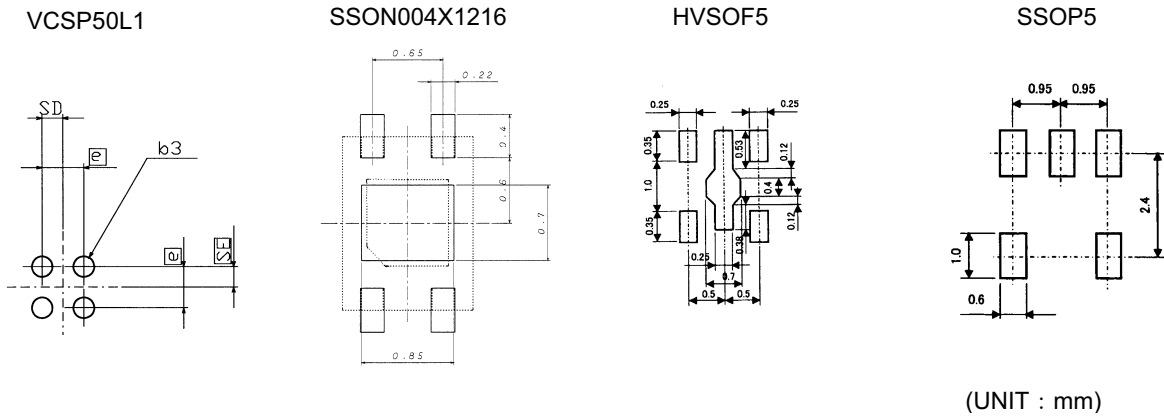

Fig.40 Magnet Dimensions and Flux Density Measuring Point
Of the two representative varieties of permanent magnet, neodymium generally offers greater magnetic power per volume than ferrite, thereby enabling the highest degree of miniaturization. Thus, neodymium is best suited for small equipment applications. Fig. 39 shows the relation between the size (volume) of a neodymium magnet and magnetic flux density. The graph plots the correlation between the distance (L) from three versions of a 4mm X 4mm cross-section neodymium magnet (1mm, 2mm, and 3mm thick) and magnetic flux density. Fig. 40 shows Hall IC detection distance – a good guide for determining the proper size and detection distance of the magnet. Based on the BU52011HFV, BU52015GUL operating point max 5.0 mT, the minimum detection distance for the 1mm, 2mm and 3mm magnets would be 7.6mm, 9.22mm, and 10.4mm, respectively. To increase the magnet's detection distance, either increase its thickness or sectional area.